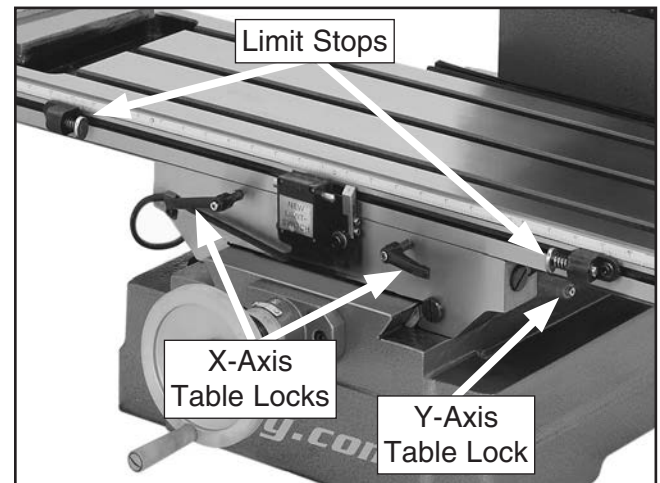

Figure 27. Table locks and limit stops.
1. Loosen both X-axis table locks shown in **Figure 27**.
The saddle does not have limit stops. To move the table along the Y-axis, loosen the Y-axis table lock shown in **Figure 27**, then use the handwheel in front of the table in the same manner as the X-axis handwheel.